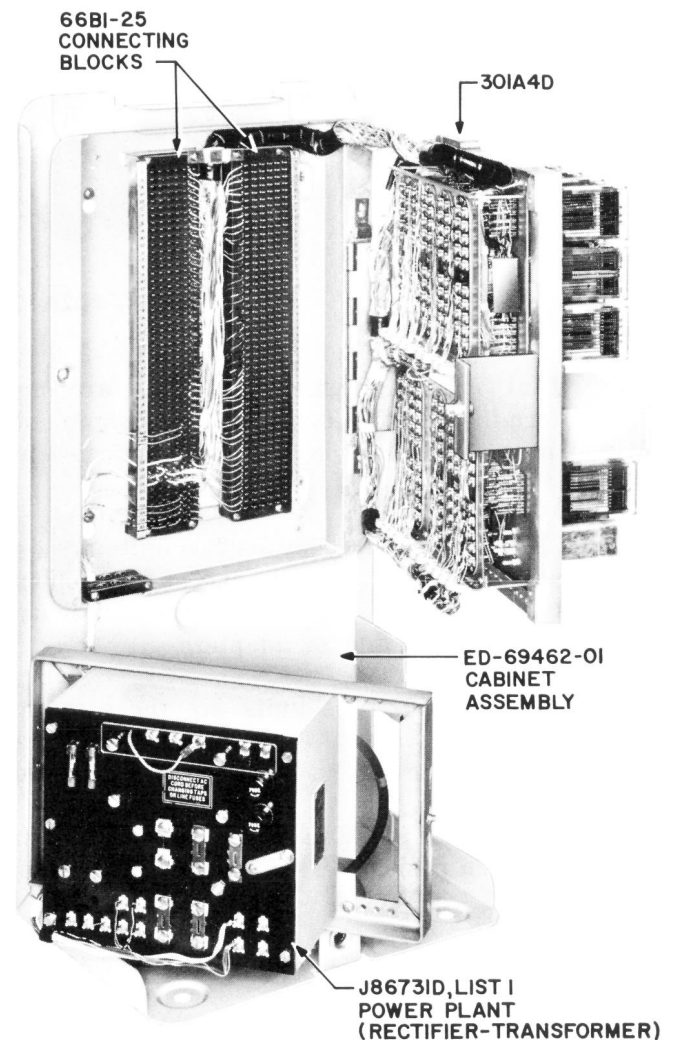

Fig. 2 — 301A4D KSU, Cover Removed
2.08 Fig. 2 shows a 301A4D key service unit with 177A backboard and 66-type connecting blocks.